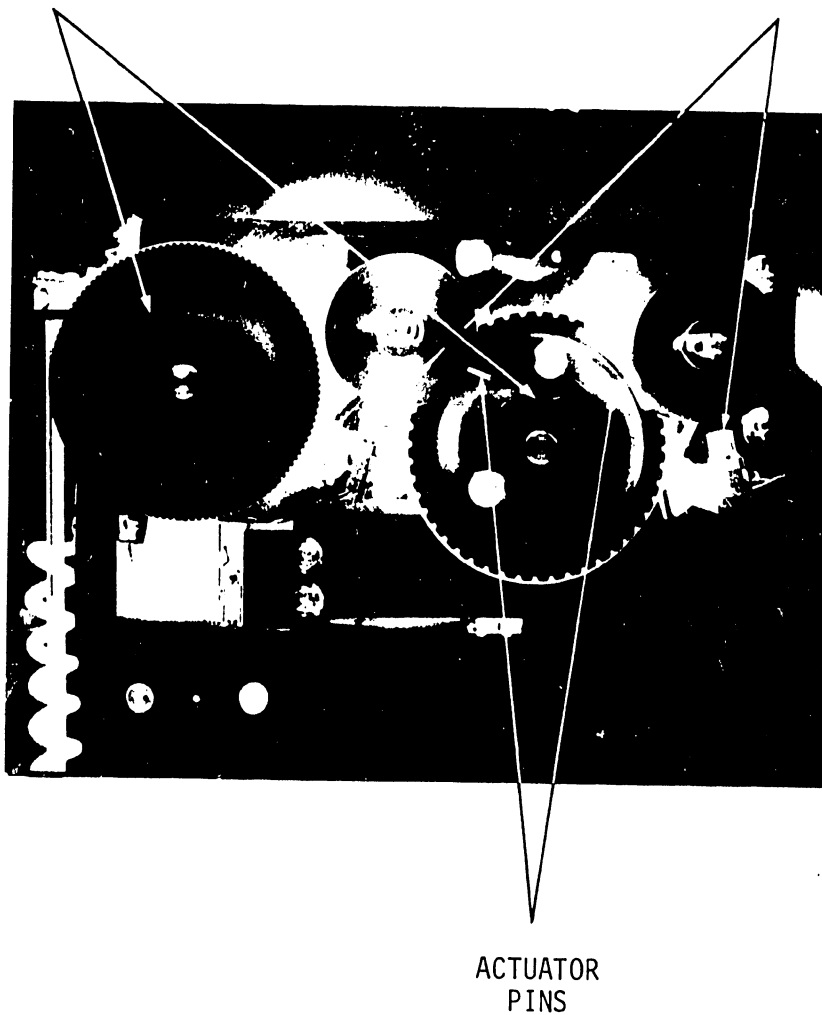

FIGURE 17
1) The following is a procedure for aligning Y axis home position. Refer to Figures 17, 18 and 19.
- 2) The following is a procedure for aligning the X axis home position. Use Figures 17, 18 and 19 for reference.